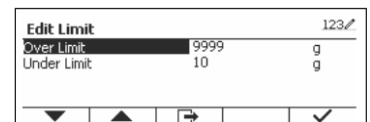

Figure 57
2. Select Over or Under Limit and press the button corresponding to the ✓ icon to edit value. (See Figure 57)